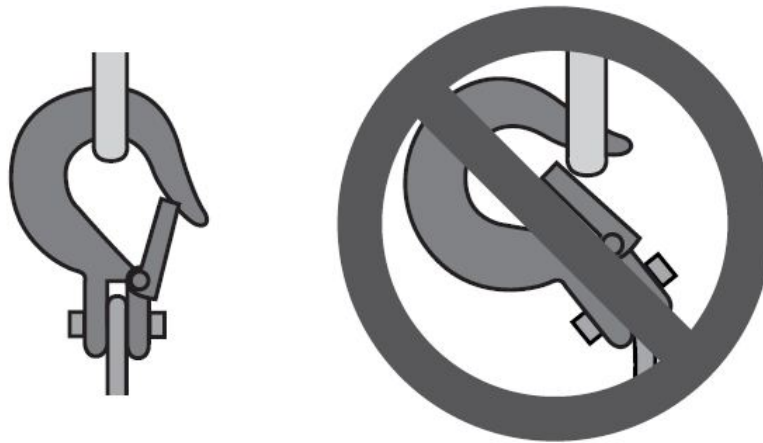

Figure 1
- Properly seat the suspension hook on the supporting structure at its intended load bearing point (Figure 1). Do not allow the hook hitch to support any part of the load. Do not apply the load to the point of the hook (Figure 1).